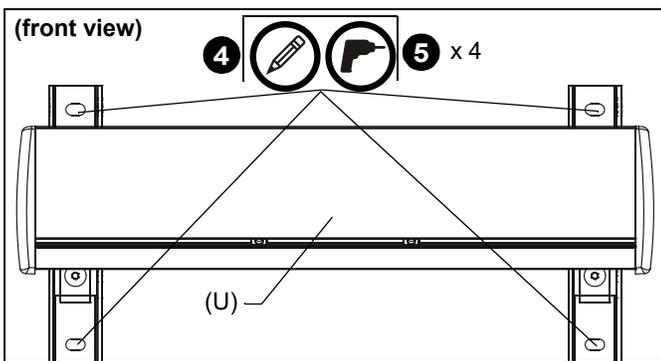

Figure 3
- Determine location of studs behind drywall, and mark four locations for projector mount wall bracket (U) attachment over studs. (See Figure 3)
- Drill one pilot hole (see Table 1 for size) at each location marked in Step 4 (See Figure 3) and follow fastener information (appropriate for wall type) located in Table 1.